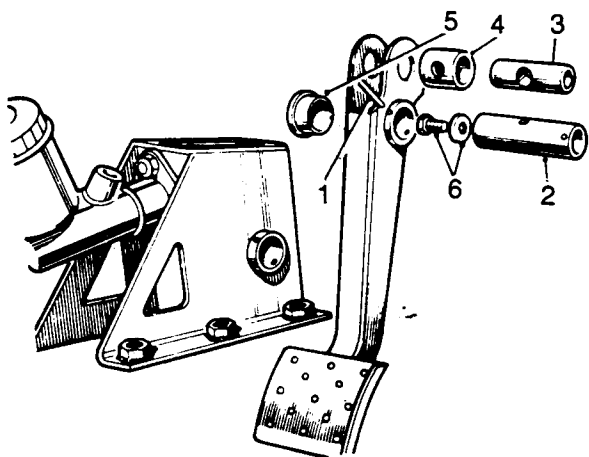

Fig H3.13
- (8) Refer to Fig H3.13. Using a suitable punch, drift out the pin (1) from the pedal shaft.
- (9) Withdraw the pedal shaft (2).
- (10) Withdraw the clutch pedal complete with trunnion (3), bush (4) and distance piece (5).
- (11) If required, remove the trunnion, bushes and distance piece from the clutch pedal.